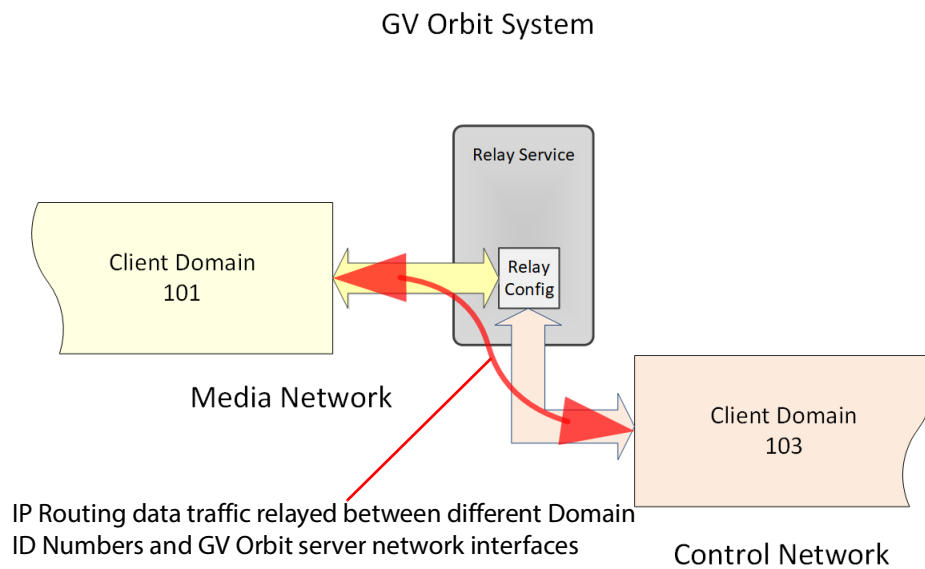

Figure 5: Relay IP Routing Traffic Use Case
- IP Routing data between different networks/Domain ID Numbers. Data is sent in *both* directions (to and from) between the networks/Domain ID Numbers involved. See Figure 5.